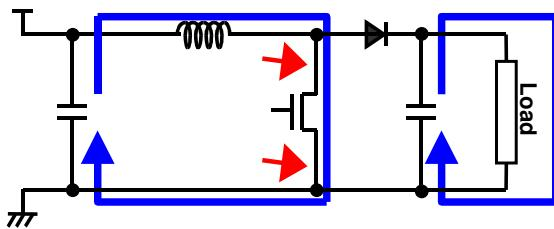

Figure 8. MOSFET-ON
Figure 8 and Figure 9 show flows of current paths of the application circuits when MOSFET is ON and when MOSFET is OFF, respectively.
- Parasitic elements (impedance, inductance or capacitance) in the paths pointed with red arrows in Figure 8 and Figure 9 influence stability of the system and cause noise outbreak. It is recommended that these parasitic elements be minimized.